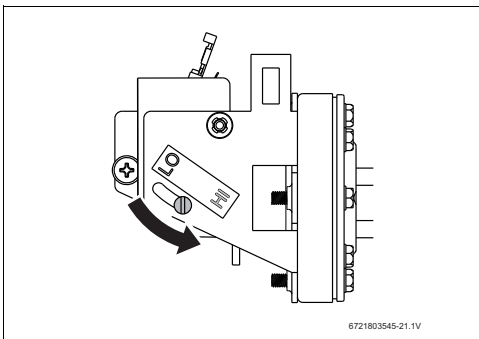
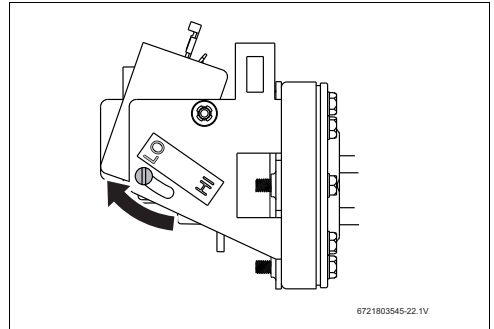

Fig. 11 Full power (HI)
Fig. 12 Half power (LO)
- ▶ Set the Power Selector Screw to the desired setting. If it is set to LO (→ Fig. 12), only one heating element will operate and the output will be half power. See the Table 3 for temperature rise at various flow rates. If the element is set on HI (→ Fig. 11), both heating elements will operate and the output will be full power (default setting). When setting the Power Selector Screw, ensure that the screw is adjusted all the way to the end of the slot and that it is well tightened.
The power selector screw not all the way to "HI".	Change the power select screw to "HI" (→ Fig. 11). ¹⁾